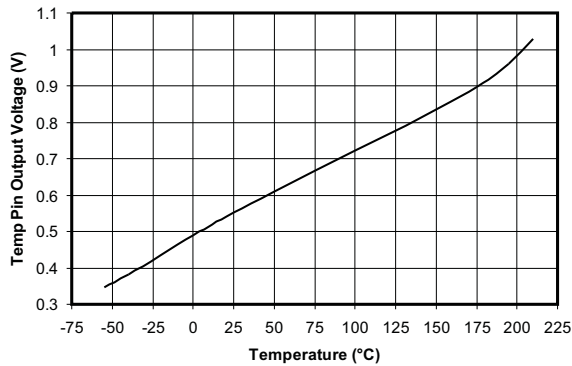

Figure 10. Temperature Pin Output Voltage vs Temperature
(3) See Figure 10.
The temperature output terminal (TEMP, pin 3) provides a temperature-dependent voltage output with approximately 60-kΩ source impedance. As seen in Figure 10, the output voltage follows the nominal relationship: